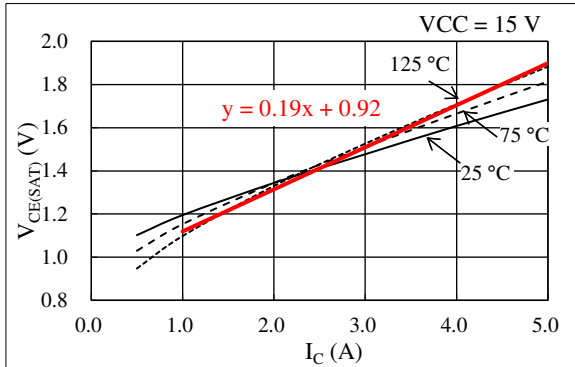

Figure 14-1. Linear Approximate Equation of VCE(SAT) vs. IC
Steady-state loss in an IGBT can be computed by using the  $V_{CE(SAT)}$  vs.  $I_C$  curves, listed in Section 15.3.1. As expressed by the curves in Figure 14-1, a linear approximation at a range the  $I_C$  is actually used is obtained by:  $V_{CE(SAT)} = \alpha \times I_C + \beta$ . The values gained by the above calculation are then applied as parameters in Equation (4), below. Hence, the equation to obtain the IGBT steady-state loss,  $P_{ON}$ , is: